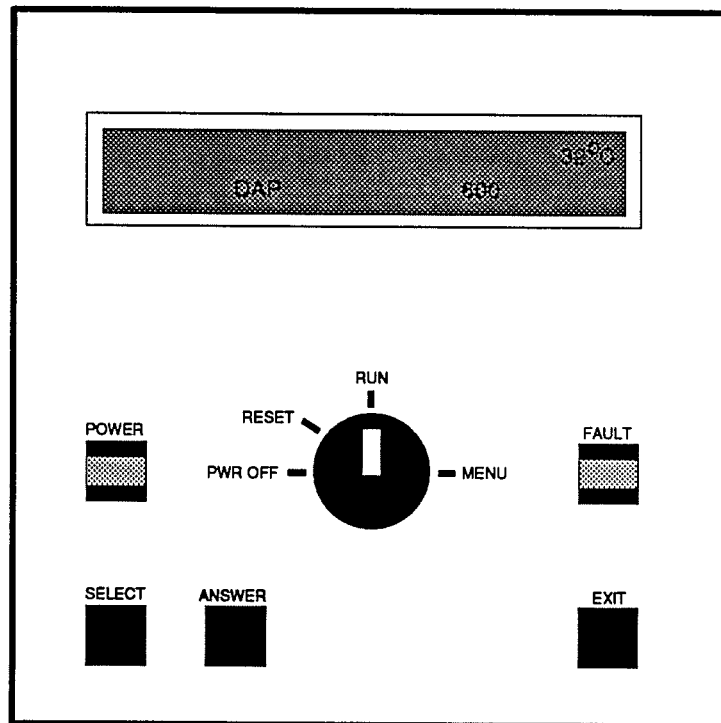

Figure 3.1
The control panel of a DAP (see figure 3.1 below) includes:
- Only this option is being RUN on the DAP 600 in figure 3.1 on page 27